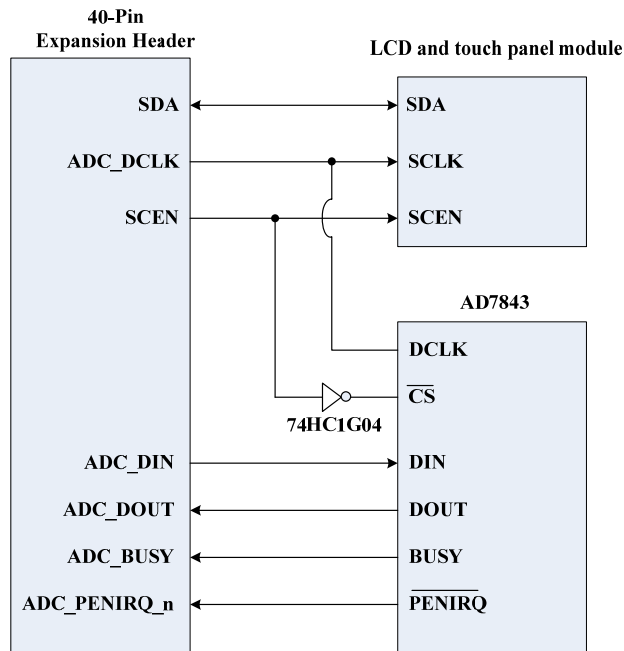

Figure 3.1 The serial interface of the LCD touch panel module and AD7843.
Because of the limited number of I/O on the expansion header, the serial interfaces of the LCD driver IC and ADC need to share the same clock (ADC_DCLK) and chip enable (SCEN) signal I/O on the expansion header. To avoid both the serial port interfaces may interfere with each other when sharing the same clock and chip enable signals, the chip enable signal (CS), which is inputted into the ADC will come up with a logic inverter as shown in Figure 3.1. Users need to pay attention controlling the shared signals when designing the serial port interface controller. The detailed register maps of the LCD driver IC are listed in appendix chapter. The specifications of the serial port interface of the LCD driver IC are described below.